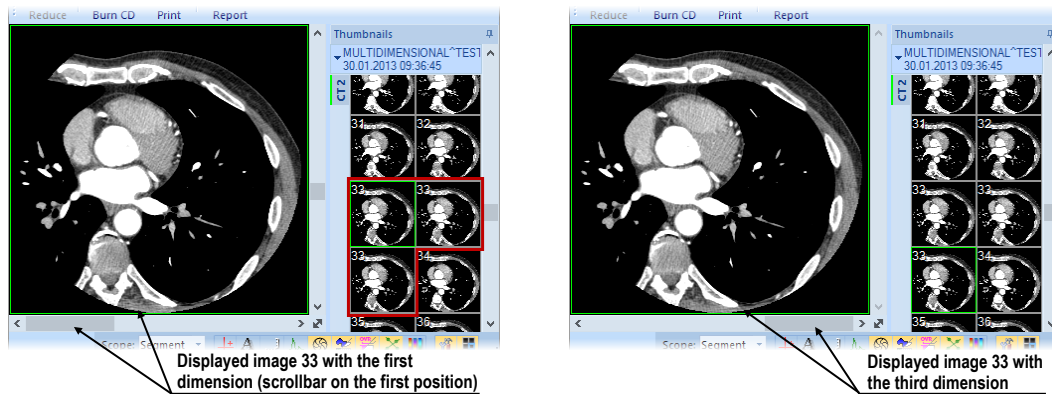

Figure 133 – Displayed image with the first and the third dimension in the current view
- Move to the image with the next/previous dimension that has the same position in the series as the image in the current view, by scrolling with the mouse wheel while pressing down the ALT key or using the horizontal scrollbar (see Figure 133).